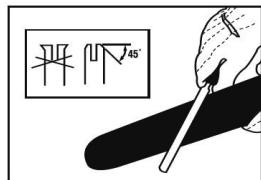

Fig. 7B
- Check the bar rails frequently for wear and, if necessary, remove the burs and square-up the rails using the flat file (Fig. 7B).